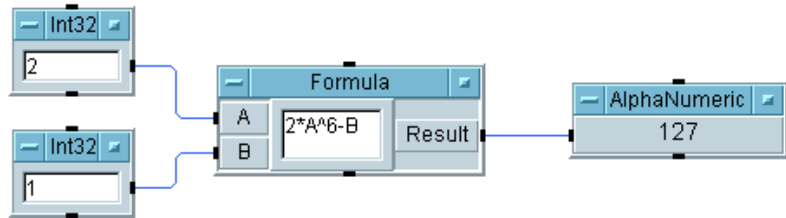

Figure 4-6. Evaluating an Expression
5. Select `Display` \Rightarrow `AlphaNumeric` and connect it to the output of `Formula`, and run the program. It should display the result `127`, as shown in Figure 4-6.